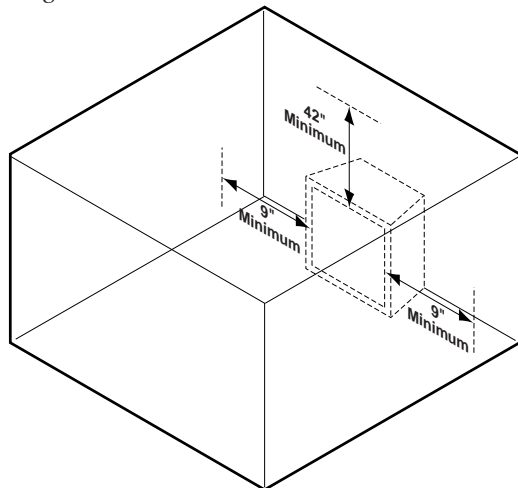

Figure 19 - Clearances and Height Requirements for DFX24/DBX24
1. **Sidewall Clearances** — The clearance from the inside of the appliance to any combustibles adjacent wall should not be less than 9" for the DBX24/DFX24 or less than 15" for the DFX32. Refer to *Figures 19 and 20*.
2. **Ceiling Clearance** — The ceiling must be at least 42" from the top of the firebox opening. Refer to *Figures 19 and 20*.
The dimensions shown in *Figures 19 through 21* are **minimum clearances** to maintain in installing this heater. Left and right clearances are determined when facing the front of the heater.